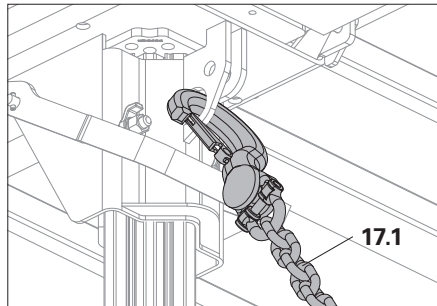
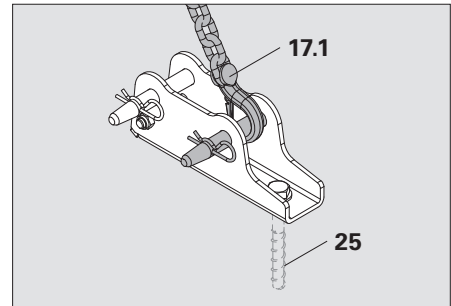

Fig. A4.03a
Fig. A4.03b
Alternatively: Guardrail Post SGP. (Fig. A4.03a)
1. Push the Guardrail Holder GT 24 / VT 20 (14.2) with the square pipe downwards onto the Girder VT 20K (5).
2. Attach to Girder VT 20K (5) using 1x Fitting Pin $\varnothing 20 \times 140$ (55), and secure with cotter pin 4/1 (47).
3. Insert Guardrail Post HSGP-2 (12). (Fig. A4.03b)
4. Attach Side Mesh Barrier PMB 260 (39) or handrail boards.
- Anchor Chain 3.0 kN, L = 2.5 m (17.1) with Turnbuckle 3.0 kN, M12 and Base Plate-2 for RS (18).
- (Fig. A4.03a + Fig. A4.03b)